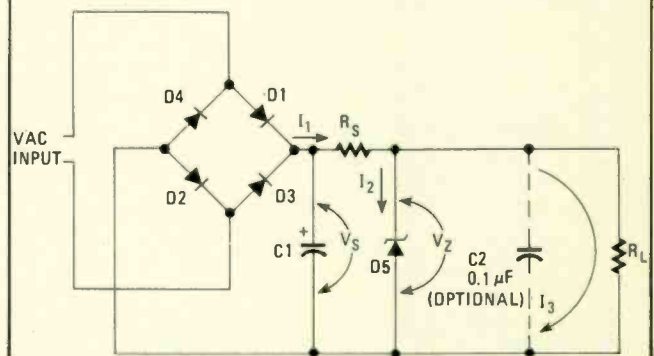

FIG. 13—ZENER-REGULATED DC power supply provides constant voltage to R_L . Capacitor C1 provides basic filtering keeping V_S always higher than V_Z .
Figure 13 shows a Zener-regulated DC power supply. Resistor R_L represents the load applied to the power supply (i. e. $V_Z \div I_3$). Capacitor C1 is the regular filter capacitor used in any DC power supply. A good rule of thumb is to make C1 not less than 1000- μ F per ampere of load current, or 500 μ F (whichever is larger).
Capacitor C2 in Fig. 13 is used to suppress avalanche *hash* noise produced by the Zener diode. In many circuits that noise is negligible, so C2 may be deleted.
Designing a Zener-diode regulator circuit as seen in Fig. 13 is a four-step process: (1) Determine the operating condition (explained below); (2) select the Zener potential; (3) select
Design a Zener diode voltage regulator such as Fig. 13 to provide a 6.8 VDC to a circuit that draws 75 milliamperes. The power source is an automobile battery, which normally varies 12 to 15 VDC as the engine speed changes from an idle to high RPM.